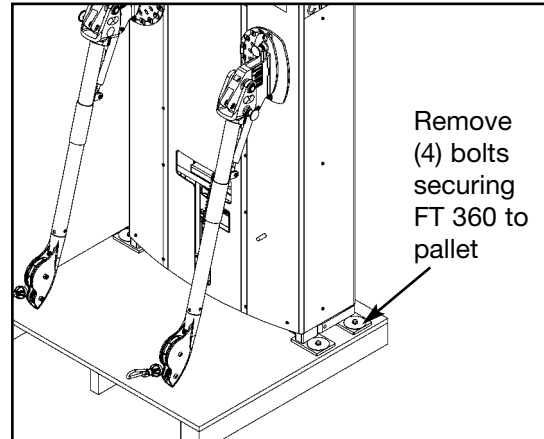

Figure 1
- D.** Verify contents of the carton. See Figures 1 and 2.
**1. Remove FT 360 from pallet** (see steps 1A - 1C and Figure 1).
- A. Remove the four bolts securing the FT 360 to the pallet. See Figure 1.